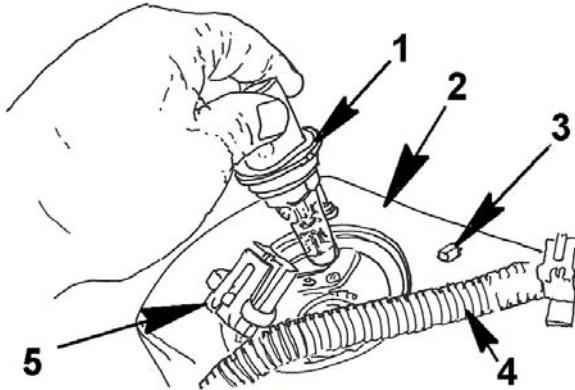

Figure 47 Bulb Removal
6. Remove halogen bulb (Figure 47, Item 1).